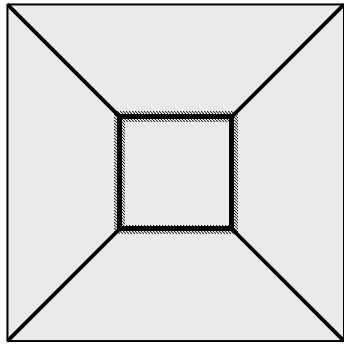

Figure 6. Yield line pattern of problem 2b
- b We consider the yield line pattern of Figure 6. Determine an upper bound for q expressed in m_p and a (1.5 points).